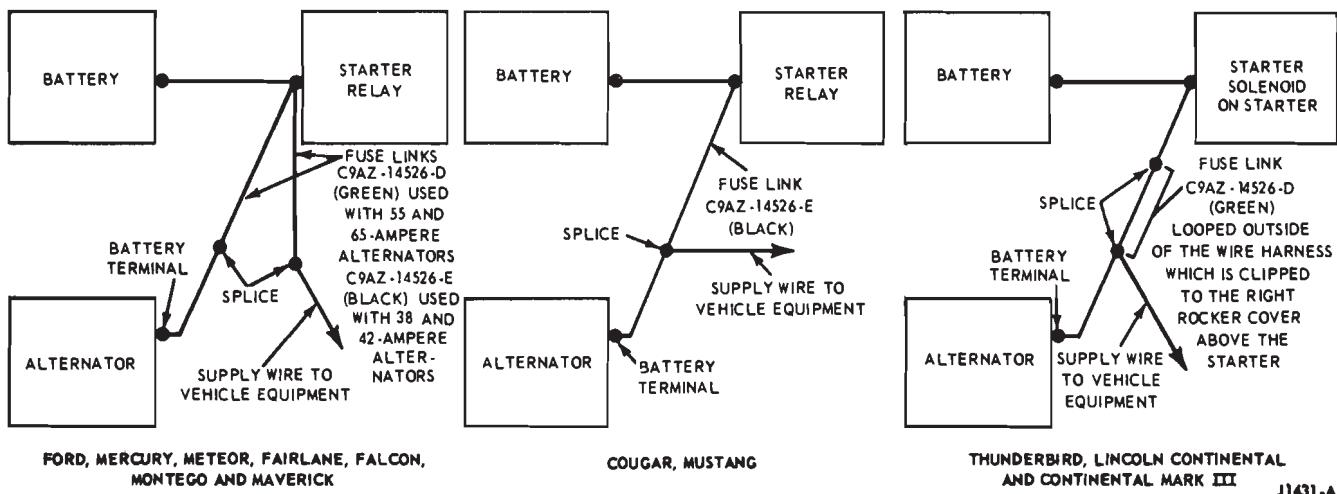

FIG. 31—Fuse Link Installation
The fuse link is a short length of insulated wire integral with the engine compartment wiring harness. It is several wire gages smaller than the circuit that it protects. Production fuse links are black. Service fuse links are green or black depending on usage. All fuse links have the words FUSE LINK printed on the insulation. Fig. 31 shows fuse link installations.
2. On the Ford, Mercury, Meteor, Fairlane, Falcon, Montego and Maverick, there are two fuse links (Fig. 31). Use the same procedure as in step 1 to test the fuse link that protects the vehicle equipment.
1. Procure the proper service fuse link for the vehicle being repaired (Fig. 31). The two fuse links shown have an eyelet terminal for a 5/16-inch stud on one end. When the terminal is not required, cut off the fuse